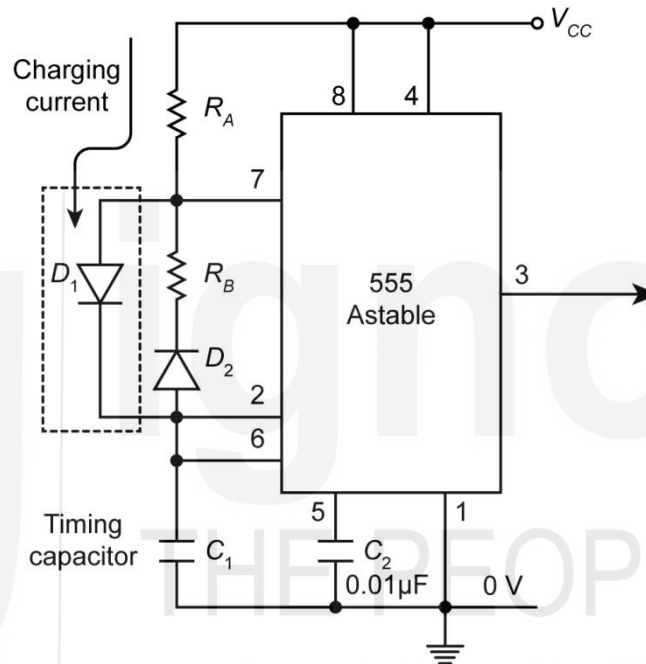

Fig. 16.8: Astable multivibrator circuit to produce duty cycles of less than 50%.
In order to obtain a train of pulses for which the duty cycle should be less than 50%, one or two diodes that separate the charging path from the discharging path for the timing capacitor C might be used. One such circuit is shown in Fig. 16.8.
In circuit of Fig. 16.8, the capacitor charges through resistor R_A and diode D_1 whereas the capacitor discharges through the series combination of resistor R_B and diode D_2 . Neglecting the forward resistance of the diodes we can write
3. For 50% duty cycle, we use the circuit shown in Fig. 16.8. If we neglect the diode forward resistance, the period of the waveform is given by Eq. (16.9)